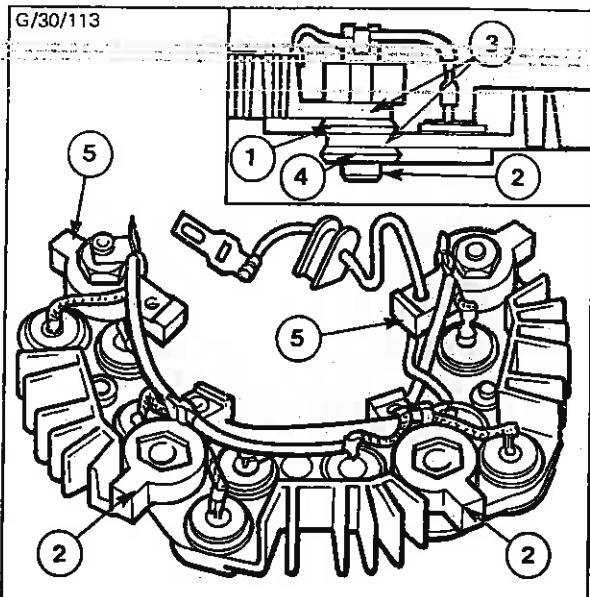

Fig. 74 - Assembling New Heat Sink
3. Remove the two heat sink securing screws (3) and spring and plain washers. Withdraw complete heat sink assembly (4) and take out the insulating strip (5).
5. Assemble the new heat sink in position (see parts list for identification) so that the complete assembly takes the form shown in Fig. 74. Place a nylon insulating washer (1) on each locator (2) so that they are interposed between adjacent heat sinks (3) as illustrated. Replace outside nylon retaining washers (4) on both locators (2) and on main terminal locators (5).